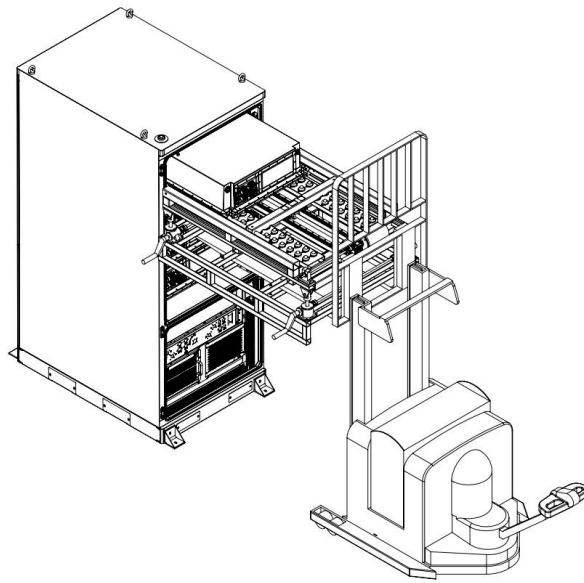

Figure 7.10 Battery Cluster Loading and Unloading
(5) Remove the old battery using a forklift in conjunction with the Battery Cluster Installation Tool, as shown in Figure 7.10.